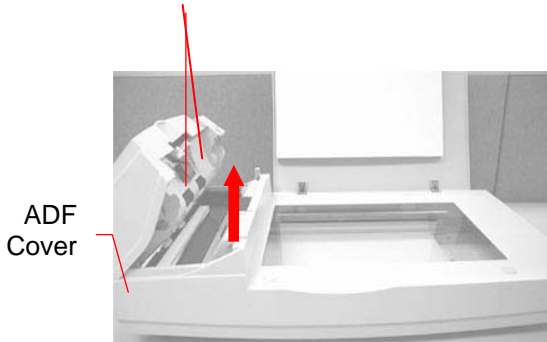

Figure 6-3 Remove the pad module
2. Remove the ADF snap-in pad module by pulling out the upper part of the pad clamp as shown in Figure 6-3.